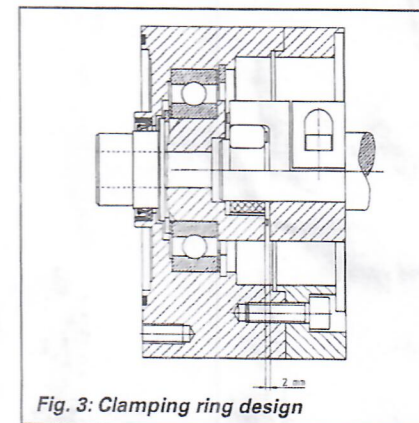

Fig. 3: Clamping ring design
- Measure the axial position of the coupling hub. Make sure there is a gap of 2 mm (see Figure 3).